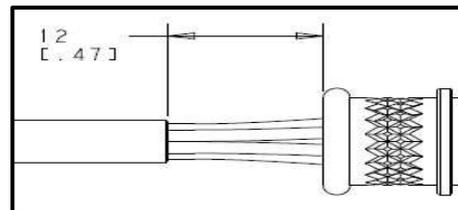

Figure 4 – Distance between Braid and Shell
- Insert crimped contacts into designated cavities from the rear of the connector using Daniels insertion tool, DAK225-22, one contact at a time. See Figure 4 for spacing between cable EMI braid and rear of shell. (If needed, use extraction tool 809-088 (D163088)).